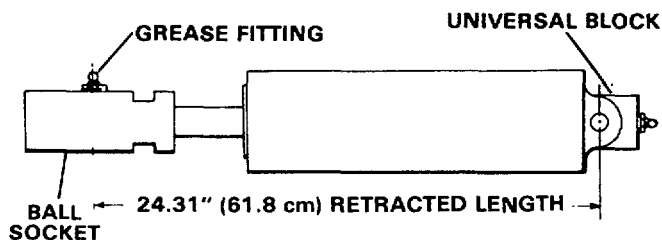

Figure 11D-5. Steering Cylinder Adjustment
7. Wash all components in suitable solvent. Inspect sleeve (13) and piston (14) for damage, Replace if necessary.
8. Inspect the inner wall of the cylinder tube and rod (11) for scoring. Light scratches can be removed by buffing with crocus cloth. Replace if necessary.
10. Install O-ring and back-up ring (08) in sleeve (13). The back-up ring goes to the outside of the sleeve. Install dust seal (09) in sleeve (13). The lips of the dust seal go to the outside of sleeve (13). Install O-ring (07) on sleeve (13).
11. Install O-ring and back-up rings (05) on piston (14). A back-up ring goes on each side of the O-ring.
12. Install O-ring (06) on cylinder rod (11). Carefully slide piston (14) and sleeve (13) on cylinder rod(11). Use care not to cut the O-rings or dust seal. Install and tighten nut (04).
13. Slide the assembled cylinder rod into cylinder body (10). Push sleeve back and install lock wire (16). Pull the cylinder rod out to seat sleeve (13) against the lock wire.
14. Install cap(12). Line up holes in cap with holes in sleeve (13) and install capscrews (15).
15. Install the ball socket assembly on the end of the cylinder rod. Adjust the ball socket assembly to the dimension shown in Figure 11D-5. Tighten the clamp bolt after adjustment is correct.